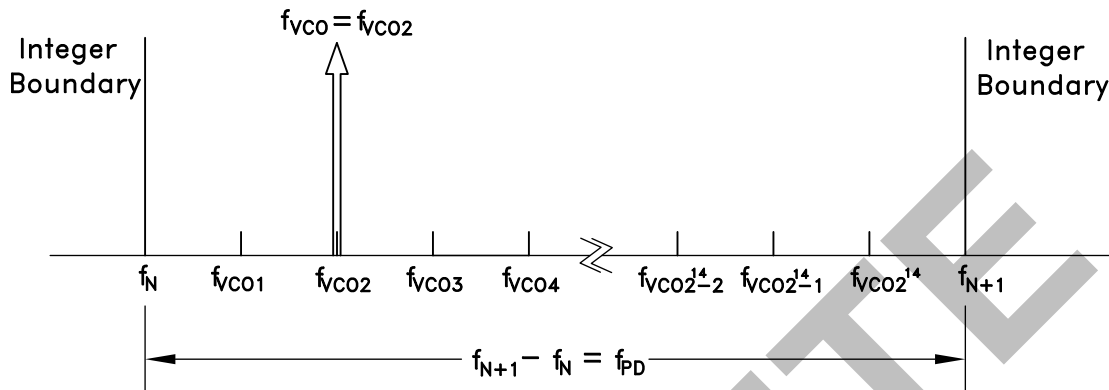

Figure 71. Exact Frequency Tuning
and  $f_{VCOk}$  are the channel step frequencies where  $0 < k < 2^{24}-1$ , As shown in Figure 71.
Some fractional PLLs are able to achieve this by adjusting (shortening) the length of the Phase Accumulator (the denominator or the modulus of the Delta-Sigma modulator) so that the Delta-Sigma modulator phase accumulator repeats at an exact period related to the interval frequency ( $f_{VCOk} - f_{VCO(k-1)}$ ) in Figure 71. Consequently, the shortened accumulator results in more frequent repeating patterns and as a result often leads to spurious emissions at multiples of the repeating pattern period, or at harmonic frequencies of  $f_{VCOk} - f_{VCO(k-1)}$ . For example, in some applications, these intervals might represent the spacing between radio channels, and the spurious would occur at multiples of the channel spacing.
If it is desirable to have multiple, equally spaced, exact frequency channels that fall within the same interval (ie.  $f_N \leq f_{VCOk} < f_{N+1}$ ) where  $f_{VCOk}$  is shown in Figure 71 and  $1 \leq k \leq 2^{24}$ , it is possible to maintain the same integer-N (Reg 03h) and exact frequency register (Reg 0Ch) settings and only update the fractional register (Reg 04h) setting. The Exact Frequency Channel Mode is possible if (EQ 16) is satisfied for at least two equally spaced adjacent frequency channels, i.e. the channel step size.
To configure the HMC1190LP6GE for Exact Frequency Channel Mode, initially and only at the beginning, integer (Reg 03h) and exact frequency (Reg 0Ch) registers need to be programmed for the smallest  $f_{VCO}$  frequency ( $f_{VCO1}$  in Figure 71), as follows:
1. Calculate and program the integer register setting Reg 03h =  $N_{INT} = \text{floor}(f_{VCO1}/f_{PD})$ , where  $f_{VCO1}$  is shown in Figure 71 and corresponds to minimum channel VCO frequency. Then the lower integer boundary frequency is given by  $f_N = N_{INT} \cdot f_{PD}$ .
Reg04h =  $N_{FRAC} = \text{ceil}\left(\frac{2^{24}(f_{VCOk} - f_N)}{f_{PD}}\right)$  where  $f_N = \text{floor}(f_{VCO1}/f_{PD})$ , and  $f_{VCO1}$ , as shown in Figure 71, represents the smallest channel VCO frequency that is greater than  $f_N$ .
4. To change from channel 1 ( $f_{VCO1} = 2800.2 \text{ MHz}$ ) to channel 2 ( $f_{VCO2} = 2800.3 \text{ MHz}$ ), only **Reg 04h** needs to be programmed, as long as all of the desired exact frequencies  $f_{VCOk}$  (Figure 71) fall between the same integer-N boundaries ( $f_N < f_{VCOk} < f_{N+1}$ ). In that case